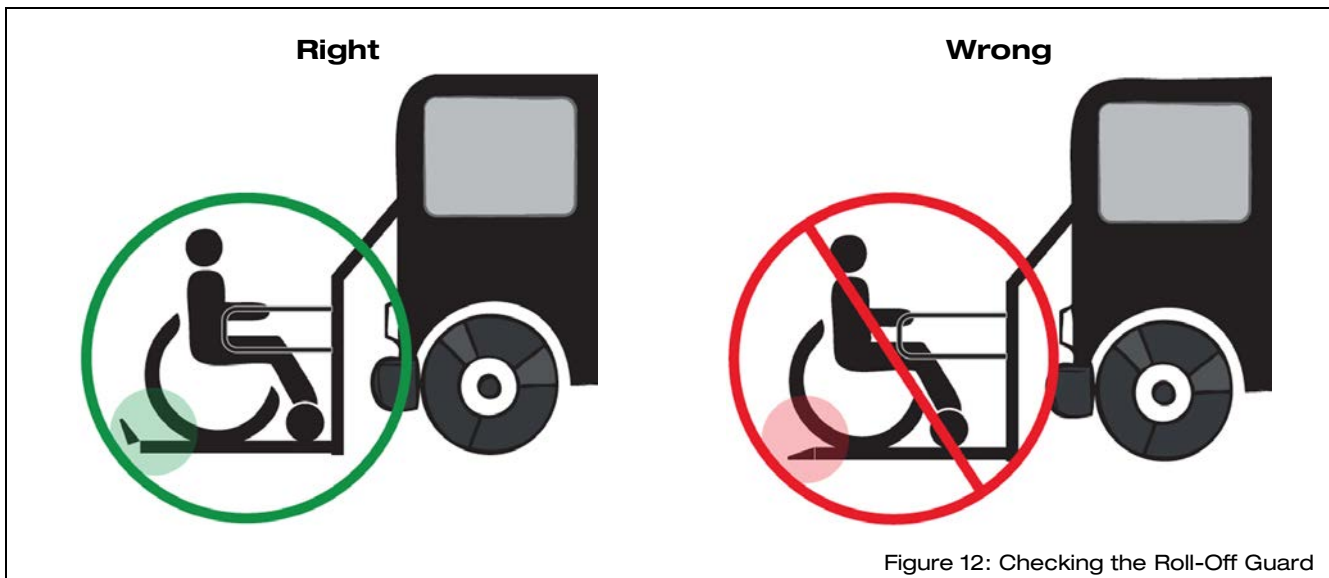

Figure 12: Checking the Roll-Off Guard
- Make sure that the roll-off guard has risen and is latched in position when the platform lifts off the ground (see Figure 12).